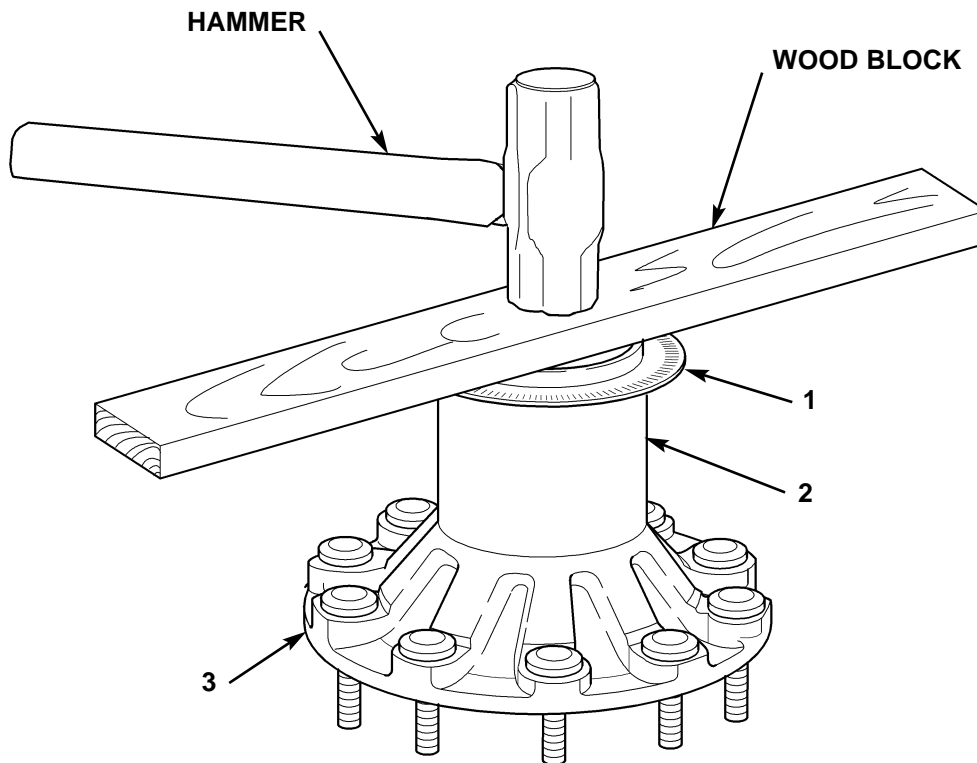

Figure 2. Installing Front Tone Ring.
1. Position front hub (figure 2, item 3) on flat surface with inner bearing end (figure 2, item 2) facing up.
2. Using flat block of wood and hammer, position front tone ring (figure 2, item 1) on front hub (figure 2, item 3) and block of wood centered across tone ring (figure 2, item 1).
3. Carefully drive tone ring (figure 2, item 1) on front hub (figure 2, item 3) until fully seated.